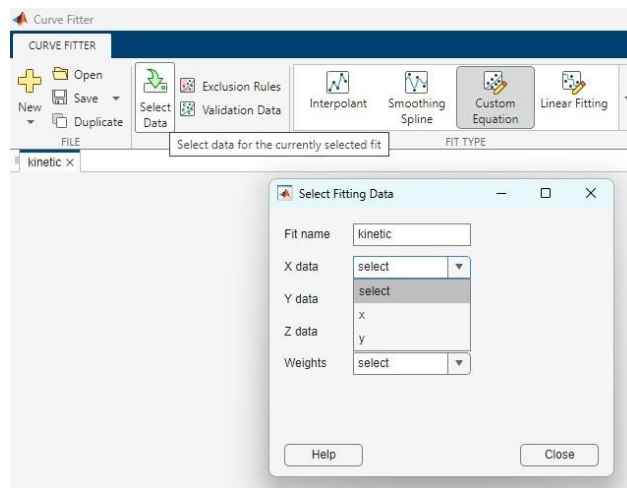

Figure 11S. Selecting the data in Matlab
3. After opening the curve fitter tool, select x data and y data for the independent and dependent variables in the dialog box that appears (Figure 11S). Experimental data can be imported from files or manually entered the command window (ideal for small datasets) or the workspace, which allows for manual editing.